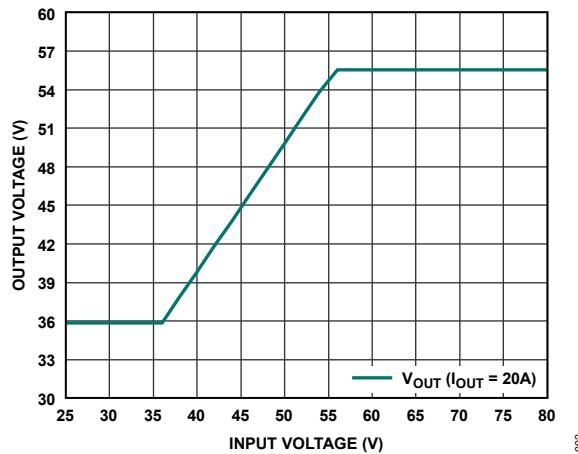

Figure 2. Output Voltage vs. Input Voltage in Pass-Thru Mode
6. V_{OUT} should range from $36V \pm 2\%$ to $56V \pm 2\%$ (see Figure 2).